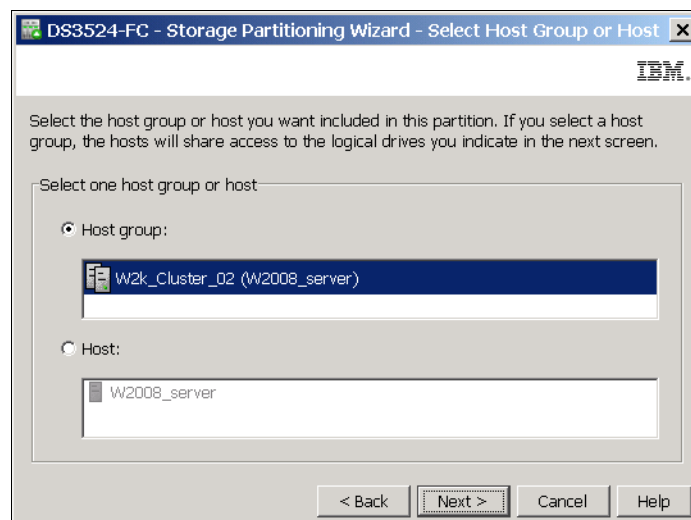

Figure 11-15 Storage Partitioning - select Host or Host Group
- After the introductory window, the wizard asks you to select either a host or a host group (Figure 11-15). If you are creating a storage partition for clustered host servers, you need to specify the appropriate host group. Otherwise you can select an individual host. In this window, you can only see hosts and host groups with no logical drives mapped. If you selected a host or host group before you started Storage Partitioning wizard, it is already selected in this window.